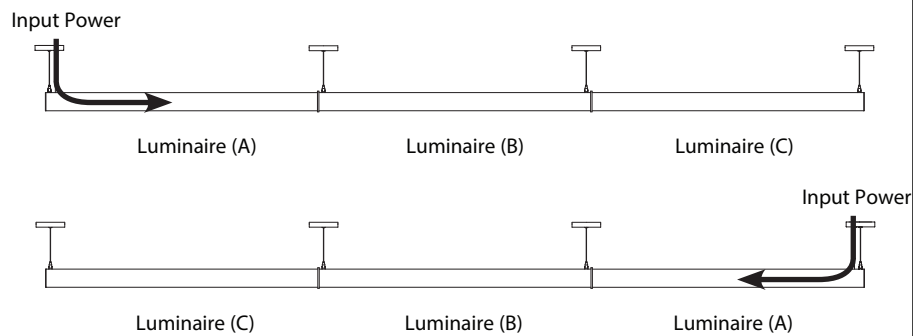

Figure 1
Black, White & Green connect to 3-wire quick connect and Purple & Pink (or Grey) to 2-wire quick connect. (Figure 1)
1. Remove end cap on switch side from luminaire (A) and end cap on power feed side from luminaire (B). (Figure 1)